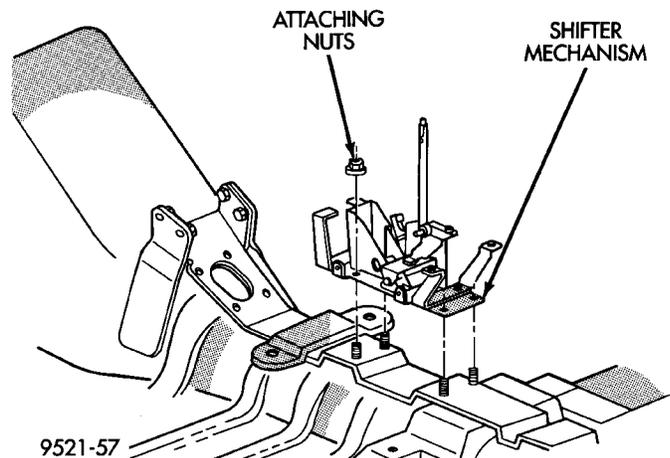

**Fig. 15 Shifter Ignition Interlock Cable**
(6) Pry the two tabs on the cable conduit end away from the gearshift mechanism and pull up on the cable. Remove the gearshift cable from the gearshift mechanism.
(7) Pry up the adjuster lock on the shifter/ignition interlock cable. Unsnap the shifter/ignition interlock cable end fitting from the groove in the gearshift mechanism. Remove the cable core end from the plastic cam of the shifter mechanism (Fig. 15).